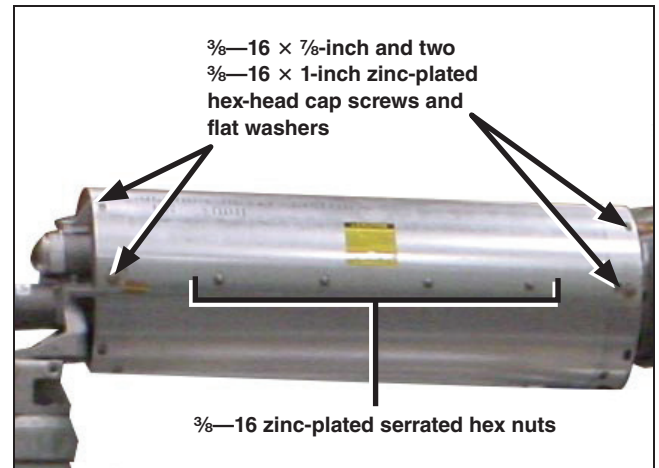

Figure 11. Removing the interrupter container.
- STEP 1.** Remove and discard the $\frac{3}{8}$ -16 zinc-plated serrated hex nuts that run the length of the container. See Figure 11.
- STEP 2.** Remove and discard the $\frac{3}{8}$ -16 \times $\frac{7}{8}$ -inch and two $\frac{3}{8}$ -16 \times 1-inch zinc-plated hex-head cap screws and flat washers that attach the upper container-half to the coupling-end casting of the interrupter. Also remove and discard the $\frac{3}{8}$ -16 \times $\frac{7}{8}$ -inch and two $\frac{3}{8}$ -16 \times 1-inch zinc-plated hex-head cap screws and flat washers that attach the upper container-half to the indicator-end casting of the interrupter. See Figure 11.